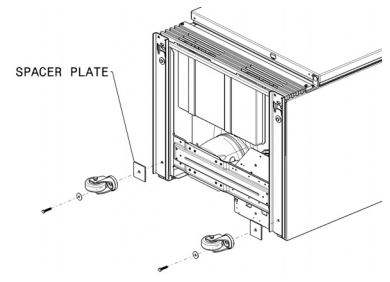

Figure 5
- Align the bolt with the threaded hole in the front right foot pad of the unit. Thread the bolt into the hole until finger tight (see Fig. 5).
- Next, insert that same caster bolt through the hole on the metal spacer plate and then thru the rear hole of the caster rail (see Fig. 5).